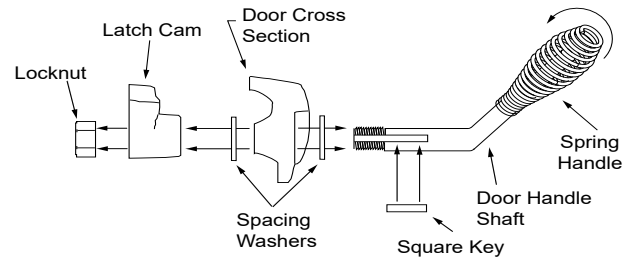

Figure 23.2
3. Install second washer(s) as shown in **Figure 23.2**.
7. Install spring handle turning in a counter-clockwise motion to required 2 inch (51mm) clearance location on door handle rod (**Figure 23.2**).